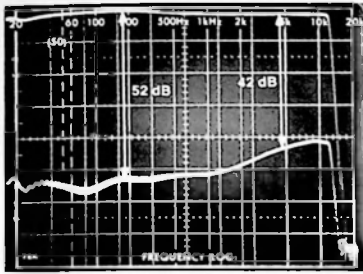

Fig. 34. Separation Measurement. Note That Separation is Poor at Higher Frequencies
- Sweep the analyzer from 0 to 20 kHz and note the pattern. It should be flat as shown in figure 34.
- Change the analyzer input to the right and repeat the sweep. The difference between the lines in steps 4 and 5 is the separation. A dual trace display such as the one shown in figure 34 can be made with a storage scope if desired.